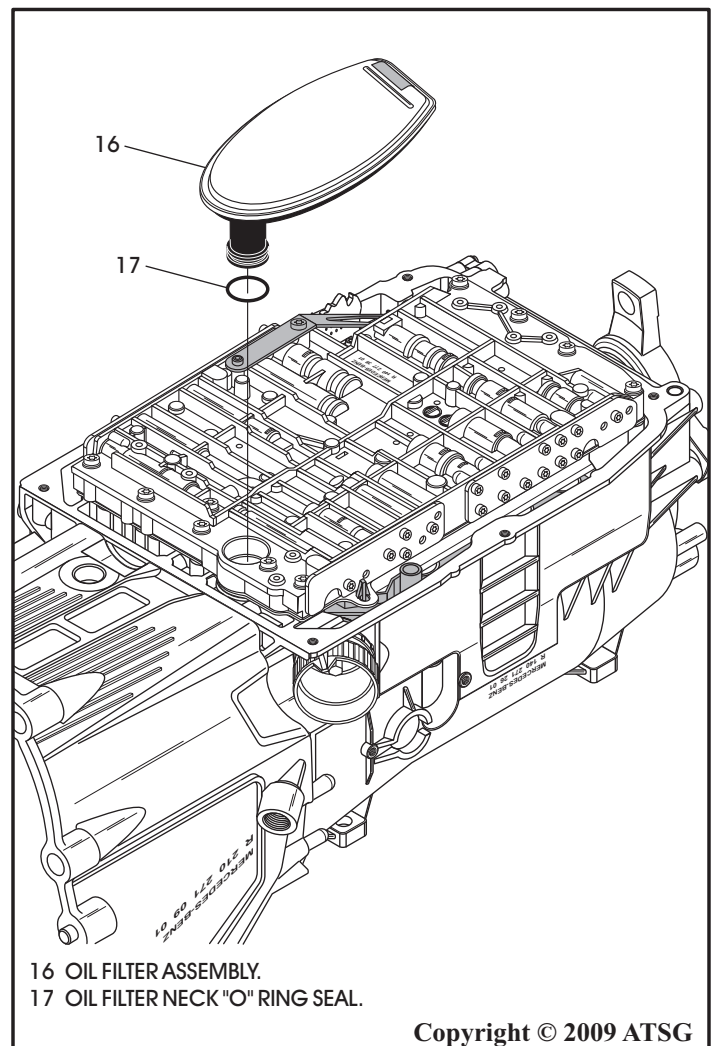

Figure 195
45. Install new "O" ring seal on the oil filter neck, lube with small amount of Trans-Jel® and install oil filter, as shown in Figure 195.